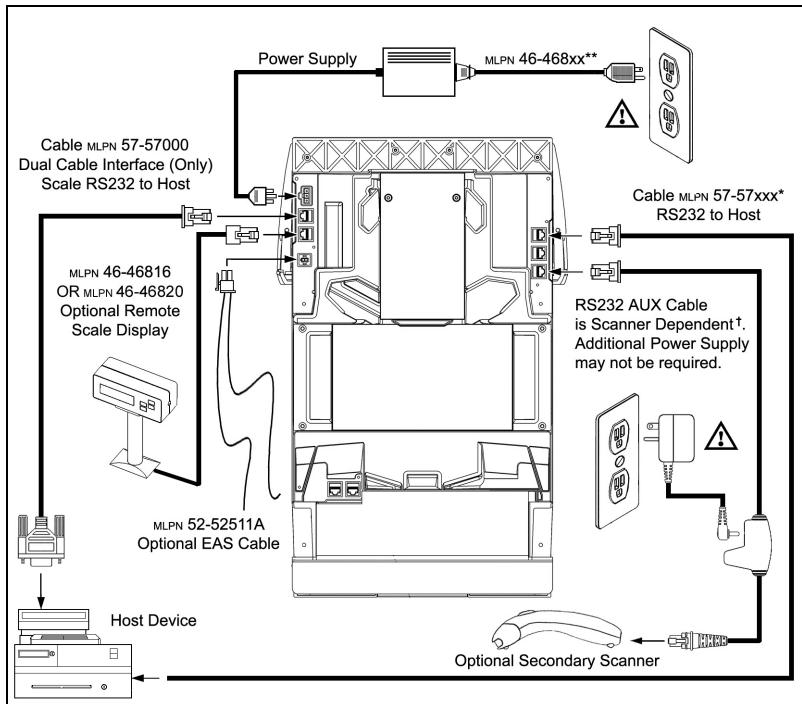

Figure 39. Secondary Scanner Cable Installation Schematic
2. Connect the **round** end of the RS232 AUX cable to the RS232 socket of the **secondary** scanner (see *figure 39 on page 52*).
Connect the scale/host cable to the 1st 10-pin socket on the bottom of the scanner next to the 3-pin Molex plug. Refer to figure 39 on page 52.